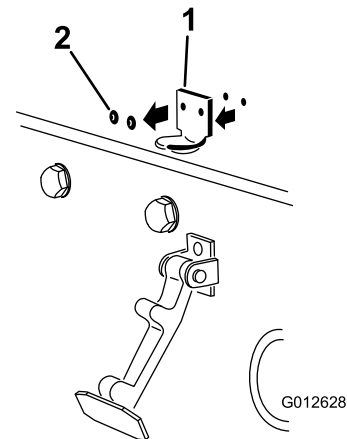

Figure 4
2. Remove the (2) rivets securing the hood latch bracket to the hood (Figure 4). Remove the hood latch bracket from the hood.
3. While aligning the mounting holes, position the CE lock bracket and the hood latch bracket onto the hood. The lock bracket must be against the hood (Figure 4). Do not remove bolt and nut assembly from the lock bracket arm.